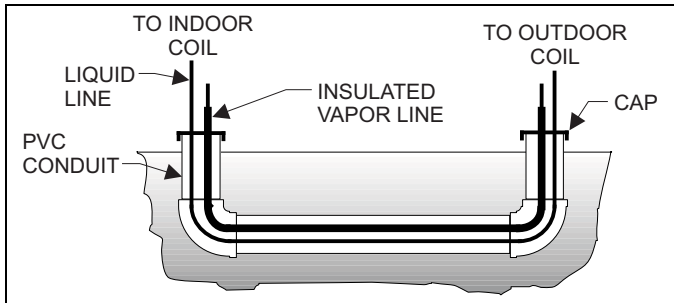

FIGURE 3: Underground Installation
- Use PVC piping as a conduit for all underground installations as shown in Figure 3. Buried lines should be kept as short as possible to minimize the build up of liquid refrigerant in the vapor line during long periods of shutdown